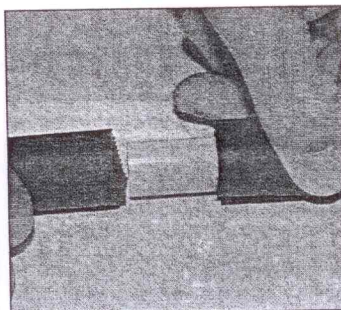
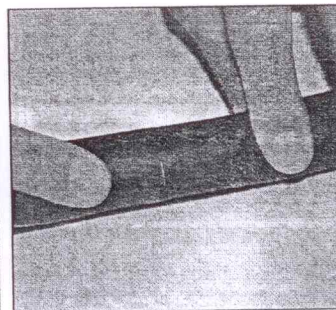

Figure 5
Figure 5a
- b. Install the plastic connector supplied with the Water Dam into both ends of the Water Dam so that no gap exists between the ends. **Figure 5 and Figure 5a**